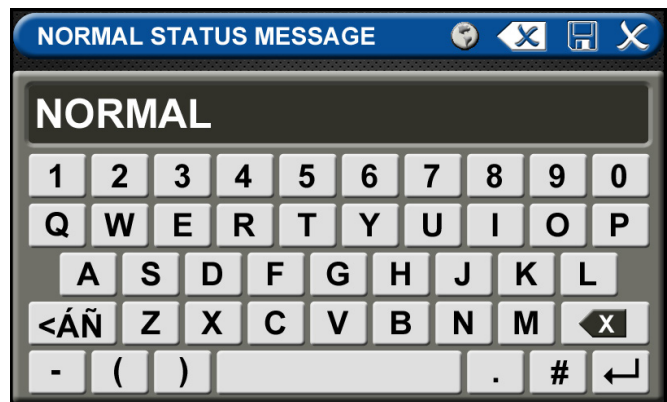

Figure 25: Normal Status Message screen
2. Touch the Erase button on the keyboard to delete the existing description (Figure 25).